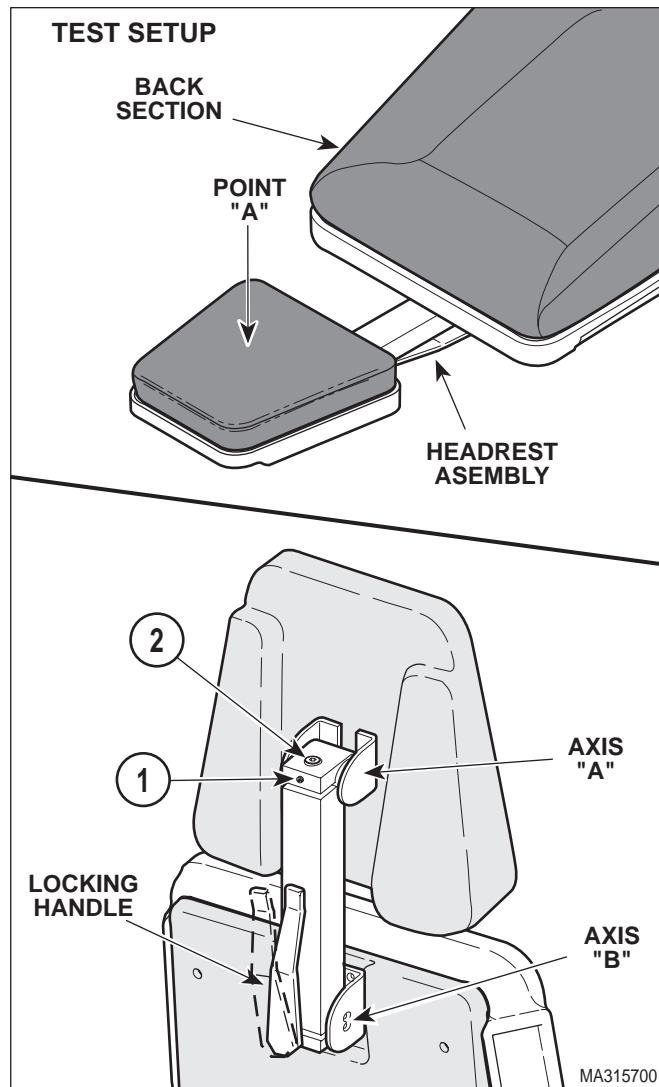

Figure 4-28. Headrest Assembly Adjustment
(1) Unlock locking handle (See Figure 4-28).
- (2) Loosen setscrew (1, Figure 4-28).
- (3) Tighten adjusting screw (2) slightly; then lock locking handle. Repeat this step until Axis A and B have the strongest possible holding power, but operation of locking handle is not too difficult.
- (4) Tighten setscrew (1).
- (5) Lower BACK DOWN function all the way down.
- (6) Position headrest assembly as shown in TEST SETUP.